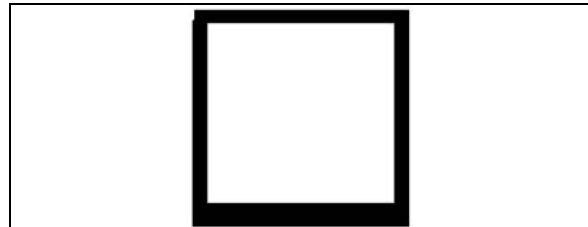

FIGURE 46 : SIDE PANEL INSTALLATION – SIKA 206 G+P APPLICATION
7. Apply Sika 206 G+P on side panel as shown in figure 46;